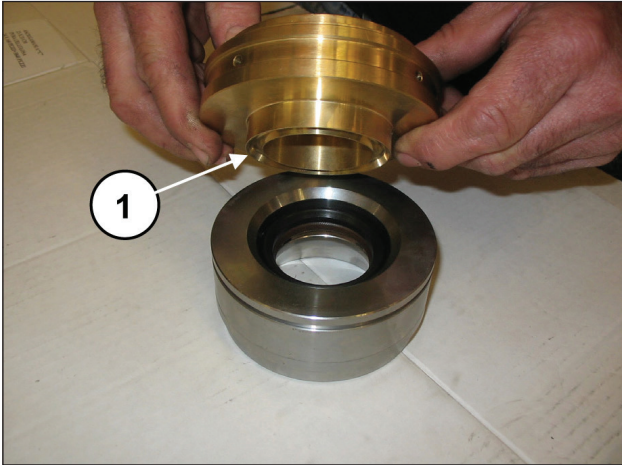

Fig. 138
Join the seals support to the liner (pos. ①, Fig. 138).